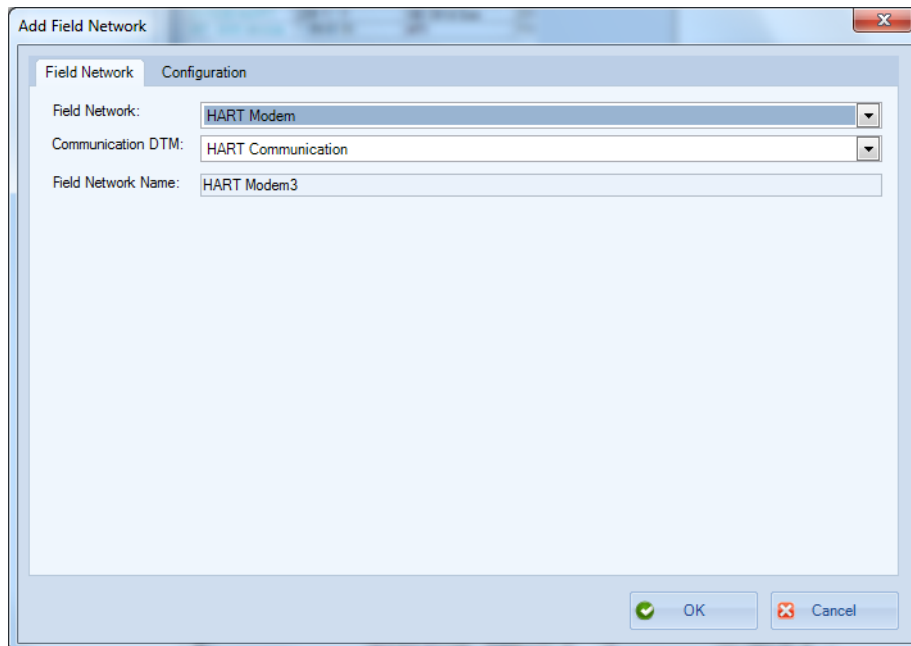

Figure 4 Add Field Network
- Click **Settings > Field Networks**, click **Add** and Figure 4 appears. Select **HART Modem** and click **OK**.